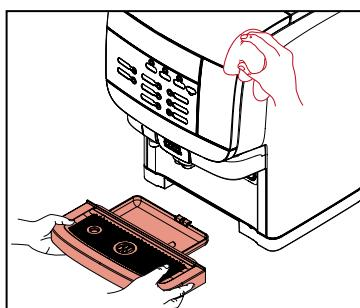

Fig.3
1. Remove the drip tray and empty it if needed (Fig.3), clean the drip tray with a cloth or brush under warm running water.